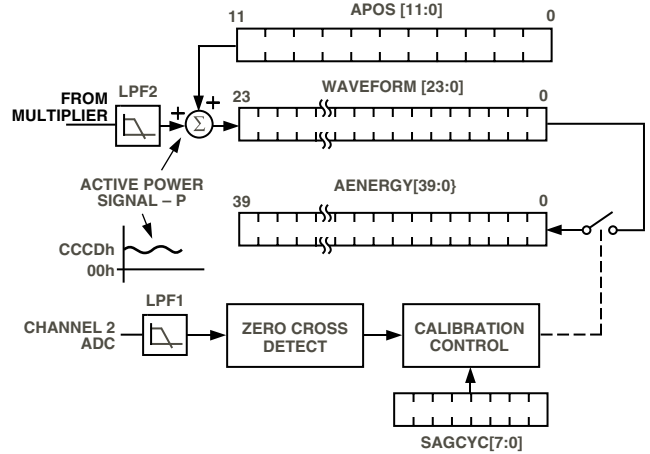

Figure 34. Energy Calculation in Calibration Mode
As mentioned in the last section, the discrete time sample period (T) for the accumulation register is 1.1 μ s (4/CLKIN). With full-scale sinusoidal signals on the analog inputs and the Active Power Gain register set to 000h, the average word value from LPF2 is CCCDh—see Figure 34. The maximum value that can be stored in the Active Energy register before it overflows is 2³⁹ or 7F, FFFF, FFFFh. Therefore the integration time under these conditions is calculated as follows:
By using the on-chip zero-crossing detection on Channel 2 the energy calibration can be greatly simplified and the time required to calibrate the meter can be significantly reduced. To use the zero-cross detection the ADE7756 is placed in calibration mode by setting Bit 7 (CMODE) in the Mode register. In Calibration Mode the ADE7756 accumulates the Active Power signal in the Active Energy register for an integral number of half cycles, as shown in Figure 34. The number of half-line cycles is specified in the SAGCYC register. The ADE7756 can accumulate Active Power for up to 255 half-cycles. Because the Active Power is integrated on an integral number of line cycles, the sinusoidal component is reduced to zero. This eliminates any ripple in the energy calculation. Energy is calculated more accurately and in a shorter time because integration period can be shortened. At the end of an energy calibration cycle the SAG flag in the Interrupt Status register is set; this will cause the SAG output to go active low. If the SAG enable bit in the Interrupt Enable register is enabled, the $\overline{\text{IRQ}}$ output will also go active low. Thus the $\overline{\text{IRQ}}$ line can be used to signal the end of a calibration also. Another calibration cycle will start as long as the CMODE bit in the Mode register is set. Note that the result of the first calibration is invalid and must be ignored. The result of all subsequent calibration cycles is correct.